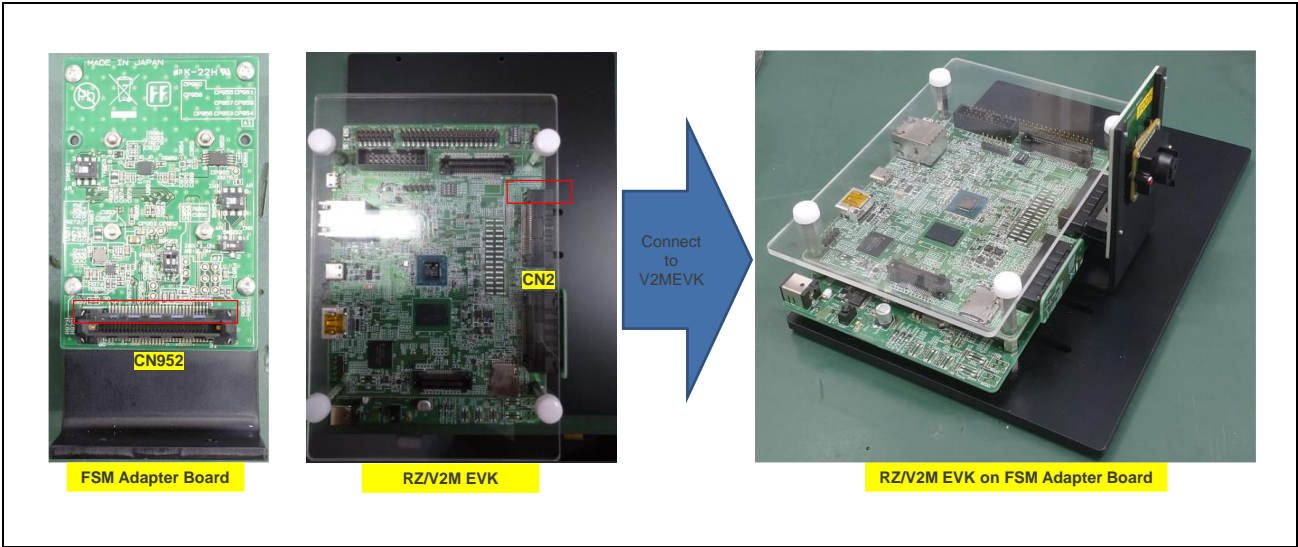

Figure 3.2-4 Connect FSM Adapter Board to V2MEVK (FSM-IMX462)
- Connect CN952 on FSM Adapter Board to CN2 on RZ/V2M Main Board (See **Figure 3.2-4**)